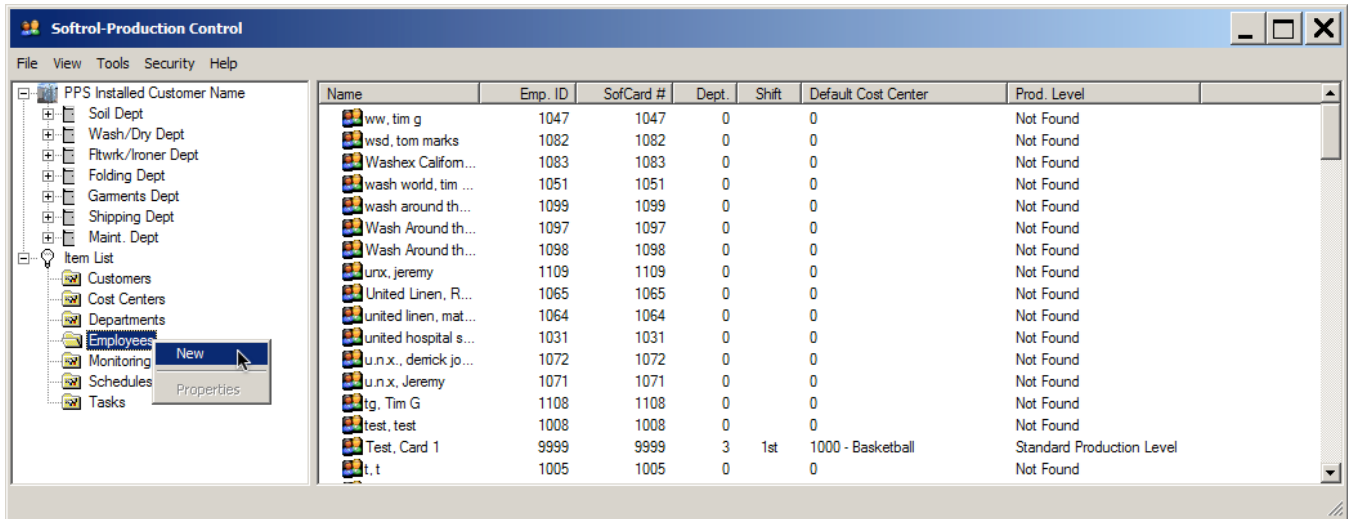

Figure 43. Setup: New Employee.
2. Right-click and select **New** (see Figure 43) or double-click an existing employee if you would like to change an existing employee's language preference. This opens the *Employee Details* dialog.